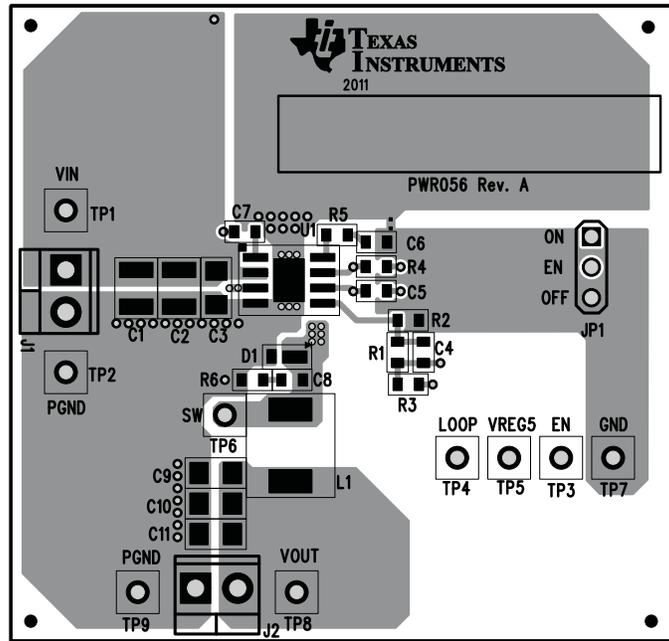
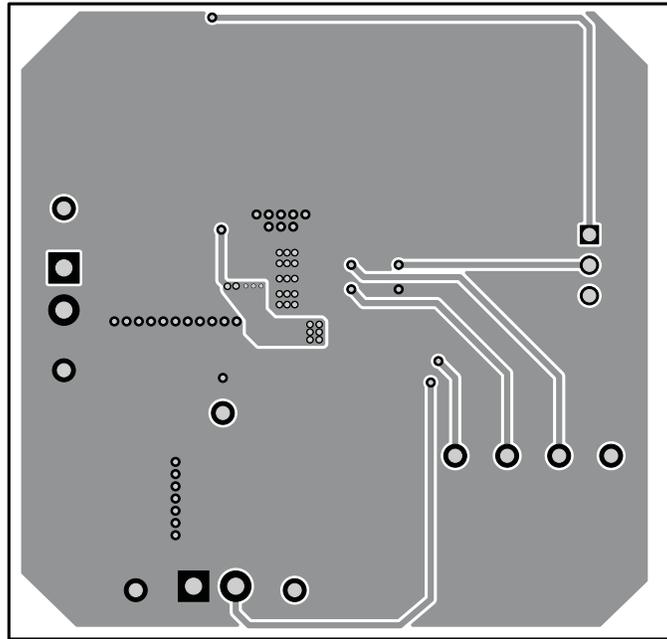

Figure 15. Top Assembly
Figure 19. Bottom Layer
The board layout for the TPS54229EEVM-056 is shown in Figure 15 through Figure 19. The top layer contains the main power traces for VIN, VO, and ground. Also on the top layer are connections for the pins of the TPS54229E and a large area filled with ground. Many of the signal traces also are located on the top side. The input decoupling capacitors are located as close to the IC as possible. The input and output connectors, test points, and all of the components are located on the top side. An analog ground (GND) area is provided on the top side. Analog ground (GND) and power ground (PGND) are connected at a single point on the top layer near C6. The two internal layers are completely dedicated to power ground planes. The bottom layer is primarily power ground. A copper pour area on the bottom layer is used to connect the switching node (SW) to the output inductor and the boost capacitor. Traces also connect enable control jumper, EN, VREG5, and LOOP test points, and the feedback trace from VOUT to the voltage setpoint divider network.